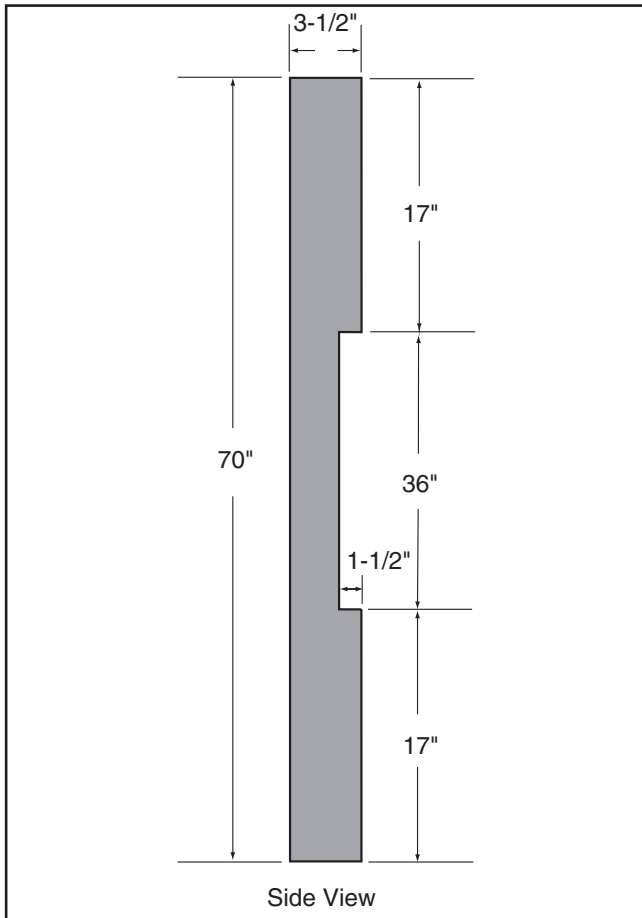

Figure 66. Dimensions of coplanarity gauge.
1. Make the "Coplanarity Gauge" shown in **Figure 66** on **Page 47**.